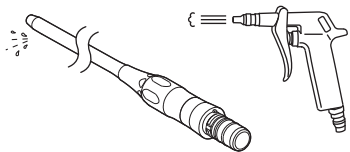

Fig. 11
- 1 Remove moisture on the surface of the product using a dry cloth, air gun, etc (Fig. 11).